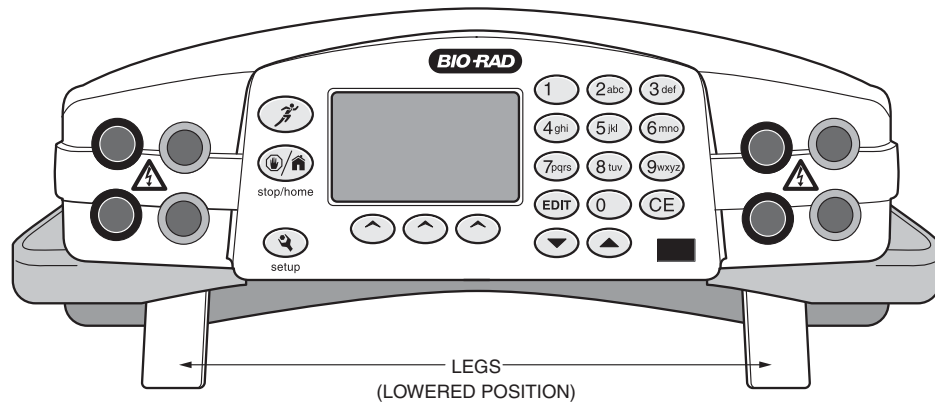

Fig. 3. Front view with legs in lowered position.
- Stackable case with adjustable viewing angle via flip down legs (See Figure 3)